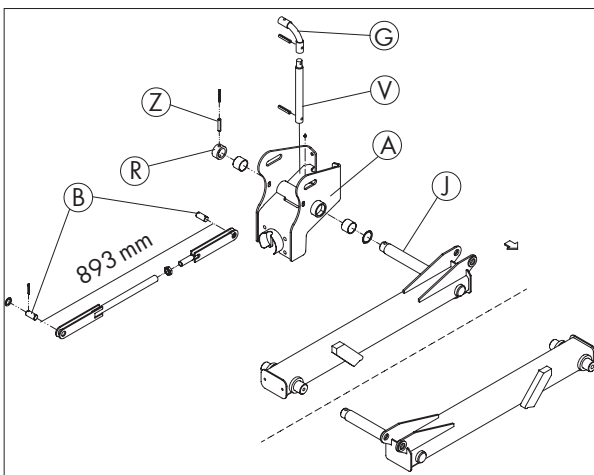

Fig. 3-8
Fix crank extension (V) and rubber joint (G) to the rotary unit using dowel pin (S) (fig. 3-8). Use the content of bag J.
Connect the bearing housing to the rotary unit using four M16 screws (C) and spacer (D) (fig. 3-8). Use the content of bag J.
Slide bearing housing (A) onto pivot pin (J) and secure with ring (R) and dowel pin (Z) (fig. 3-8).
Connect the control rod to the main frame by attaching it to the hole above the aluminium bearing and connect it to the bearing housing using bolt (B). Secure it with split pins (fig. 3-8 and 3-9). Use the content of bag K.